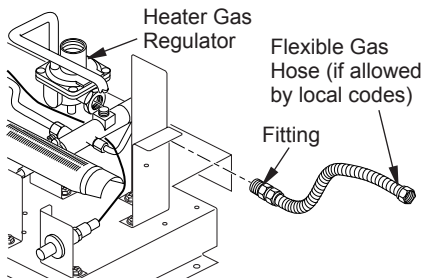

Figure 11 - Attaching Flexible Gas Hose to Heater Gas Regulator
1. Apply pipe joint sealant lightly to male threads of gas fitting (not provided). Connect approved flexible gas hose to gas regulator of heater (see Figure 11). **IMPORTANT:** Hold gas regulator with wrench when connecting flexible gas hose.